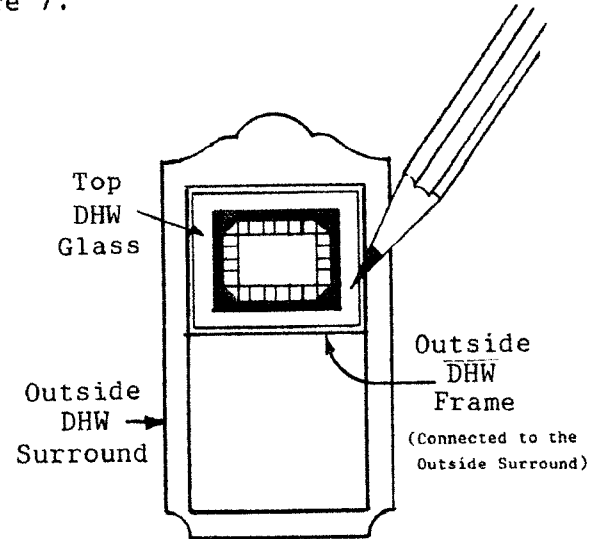

Figure 7
3. Lay an outside surround/frame (the outside frame remains connected to the outside surround) on a table with the good side down. Run a thin bead of glue around the outside frame window opening. Spread glue evenly. With clean hands, place glass on the frame, make sure it is centered. With a pencil, press the glass down for full contact with the glue. Figure 7.